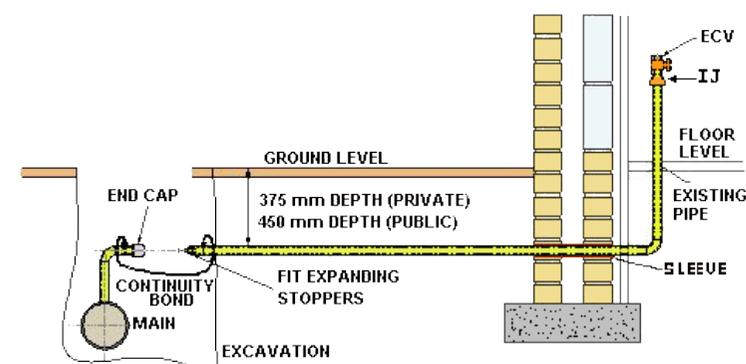
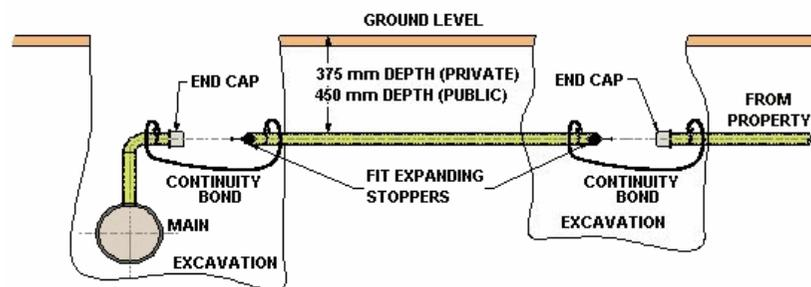

Figure 37 - Service cut off prior to dead insertion – internal position
Figure 38 - Service cut off prior to dead insertion – external position
7. Excavate either at the service connection at the main or at a location described in Section B14. (Figure 37 - Service cut off prior to dead insertion – internal position & Figure 38 - Service cut off prior to dead insertion – external position)